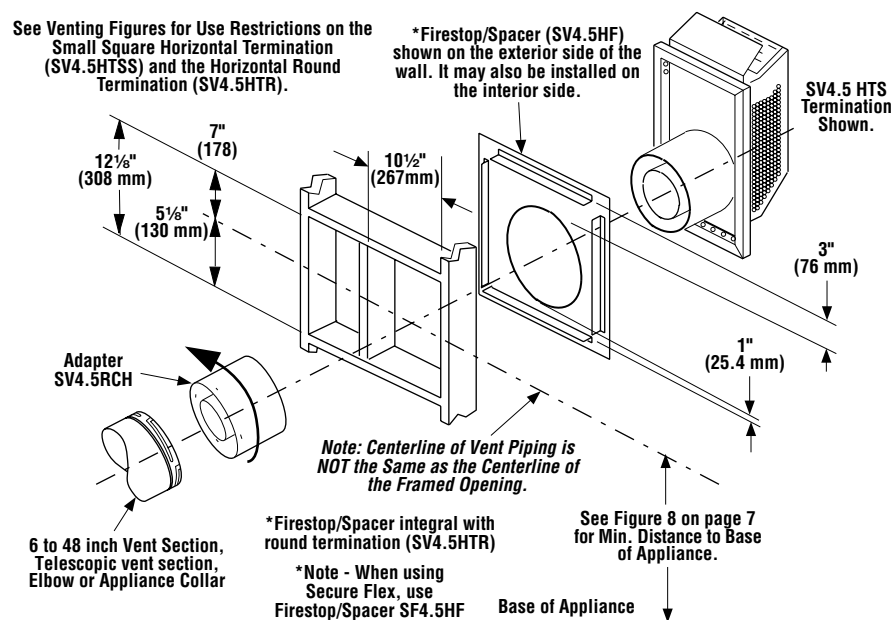

Figure 34
L. Attach termination adapter - Attach the adapter (adapter - SV4.5RCH - provided with the termination) to the vent section or telescoping vent section, elbow or appliance collar as shown in **Figure 34** in the same manner as any SV4.5 vent component (refer to **Step E**).
M. Install Firestop/Spacer at exterior wall - When using either of the **square** terminations, install a Firestop/Spacer (SV4.5HF) over the opening at the exterior side of the framing, long side up, with the 3 inch spacer clearance at the top as shown in **Figure 34**, and nail into place. (The Firestop/Spacer may also be installed over the opening at the interior side of the framing.) When using the **round** termination, a separate firestop/spacer is not required since this termination has integral spacers which provide the same function as a separate firestop/spacer.